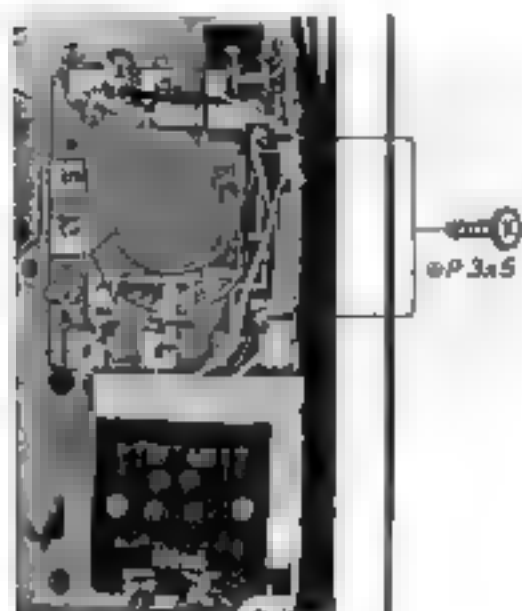

Fig. 2-13
- 1 Remove the two screws shown in Fig 2-13.